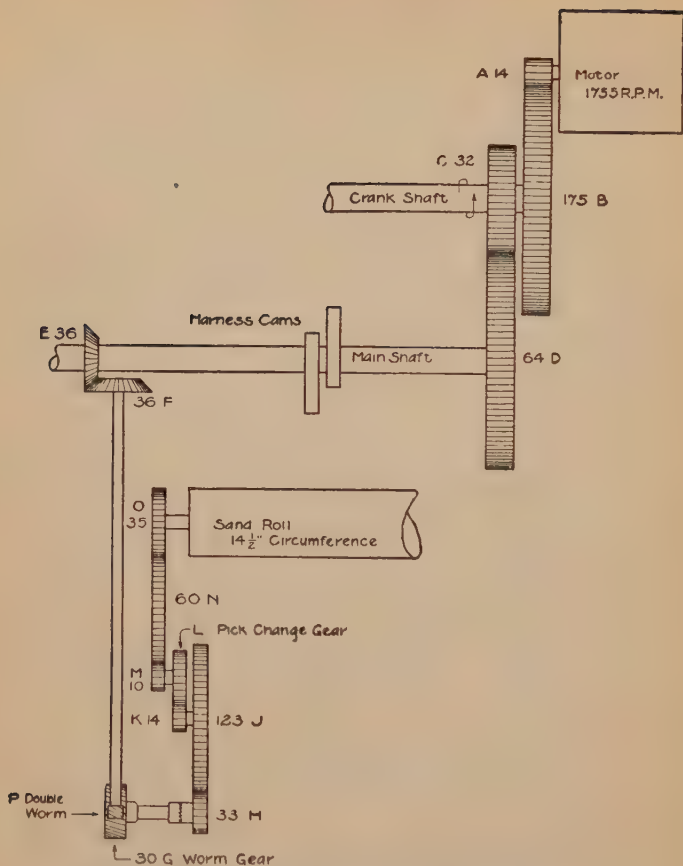

Figure 3. TAKE-UP GEARING OF LOOM WITH
The loom in figure 3 is equipped with a double worm take-up motion. One turn of the double worm,  $P$ , takes up two teeth of the worm gear,  $G$ .
18. Work out a formula for the pick constant of the loom in figure 3. Then substitute the figures from figure 3 in the formula and find the pick constant of this loom.
19. On the loom in figure 3, what pick gear shall we use to obtain 29 picks per inch?
20. What would you do in the following case: The smallest size pick gear that can be used for  $L$  (figure 3) is 10 teeth, because of the pitch of the teeth and the size of the hole through the gear. A leno weave of 16 picks per inch is to be woven?
21. (a) If we use a 28-tooth gear for  $K$  (figure 3), what will the pick constant become?
22. (a) If *K* (figure 3) remains 14 teeth and we use an 82-tooth gear for *J*, what will the pick constant become?
23. Using formula (14), find the pick constant of a loom that is producing cloth of 33 picks per inch with a 22-tooth driven pick gear.
25. Suppose that instead of the *driven* gear  $L$  (figure 3) being the pick change gear, the *driver* gear  $K$  is the pick change gear. Rearrange the formula you worked out in problem 18 into a formula for the pick constant using  $K$  as the pick change gear and giving  $L$  11 teeth. Then substitute the figures from figure 3 into the formula and find the pick constant.
There are many kinds of cam arrangements. The simplest arrangement is to place the cams directly on the cam or main shaft. Looking at figure 3 we see that R.P.M. of  $C = 2$  R.P.M. of  $D$ . Hence, a cam on the cam shaft would be up every two picks, which is the condition required for plain weaving with two harnesses.